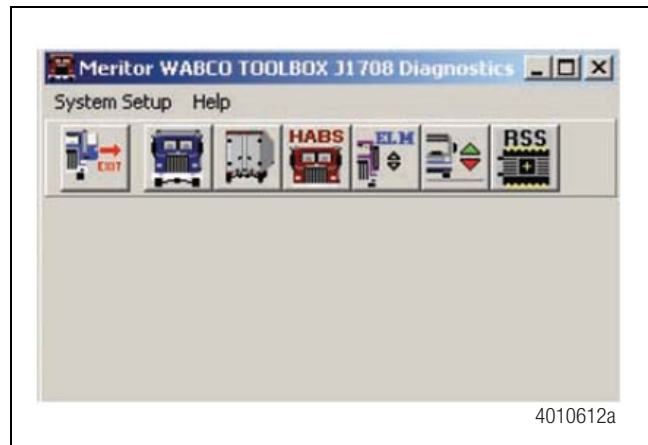

Figure 9.2
- J1708 communications are possible with any TOOLBOX™ Software version and any ABS ECU. Figure 9.2.